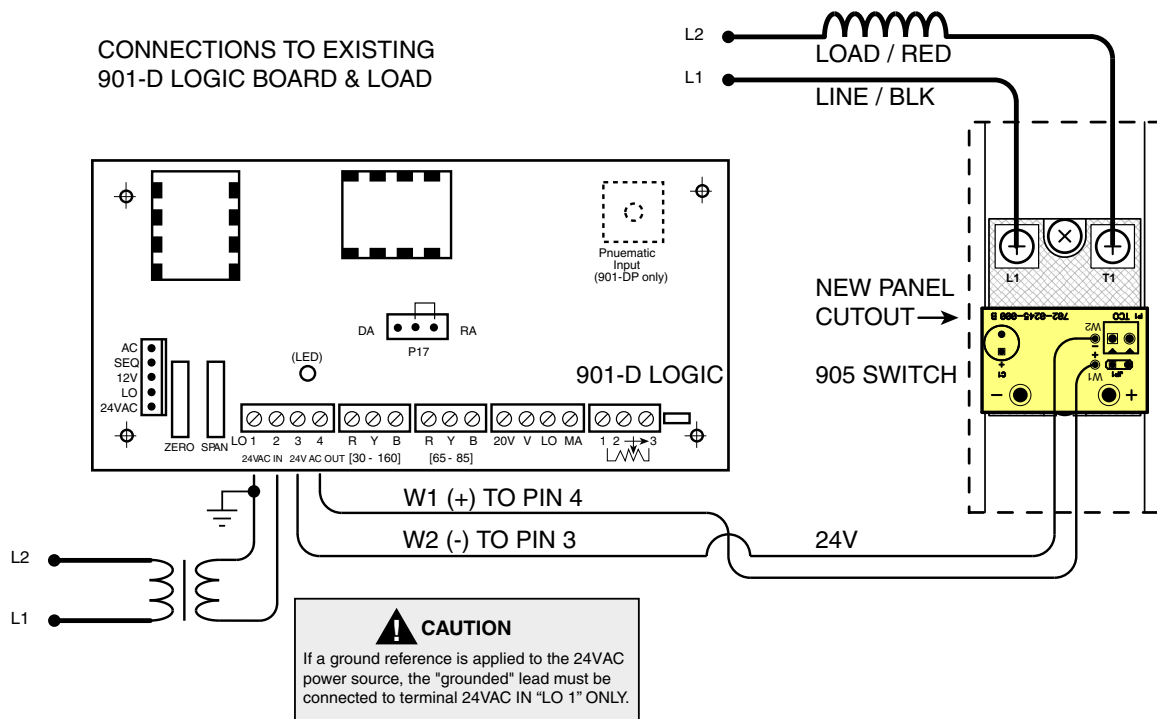

Figure 1 - Wiring Diagram for the 905 Series Power Switch
The 905 Series Power Switch is 100 % electrically compatible with the 900 Series Power Switch in that both units utilize a simple 4 wire flying lead connection scheme. There are 2 power leads to connect the switch in series with the load, and 2 signal leads to activate the power switch. The required connections are shown in Figure 1.
9. Refer to Figure 1 for determining control signal connection points on 901-D Series Logic.